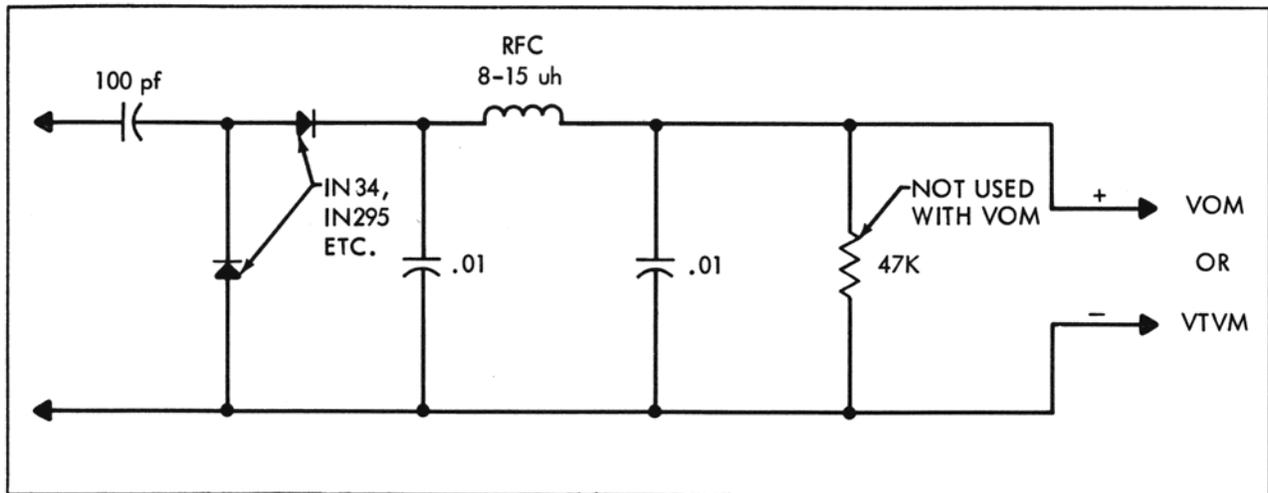

Figure 4-2. RF Probe
*If no probe is available, one may be fabricated as shown in Figure 4-2.
- a. Connect a VOM, through an RF probe to TP1. If no probe is available, one may be fabricated as shown in Figure 4-2.